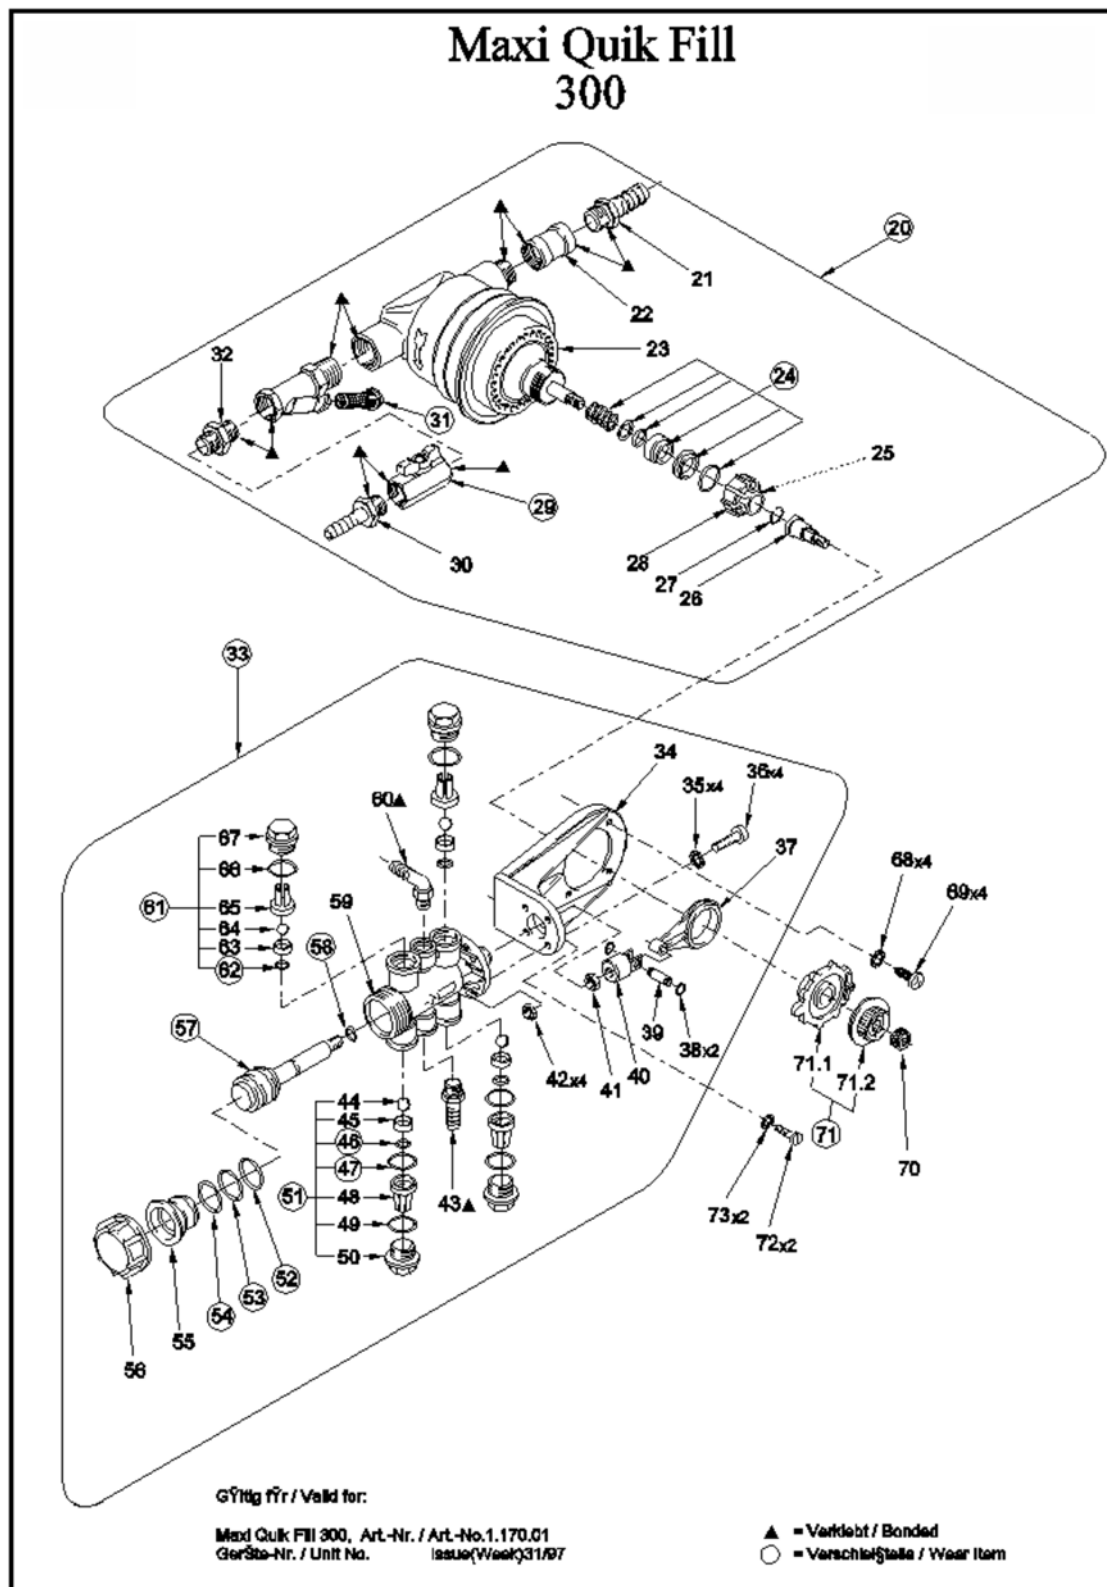

Fig. 8: Exploded view II
1. ➤ Close the fresh water faucet and close ball cock (☞ *Chapter 11 'Drawings / Spare Parts / Accessories' on page 38*, Fig. 8, pos. 29) of the water motor (Fig. 8, pos. 23).
3. ➤ Unscrew knurled knob (Fig. 8, pos. 70) from excenter stud (Fig. 8, pos. 26) and remove excenter wheel (Fig. 8, pos. 71).
4. ➤ Remove screws (Fig. 8, pos. 69) and washers (Fig. 8, pos. 68) from pump holder (Fig. 8, pos. 34).
3. ➤ Unscrew sieve holder from dirt filter (Fig. 8, pos. 31) and remove sieve.
1. ➤ Close the fresh water faucet and close ball cock (☞ *Chapter 11 'Drawings / Spare Parts / Accessories' on page 38, Fig. 8, pos. 29*) of the water motor (Fig. 8, pos. 23).